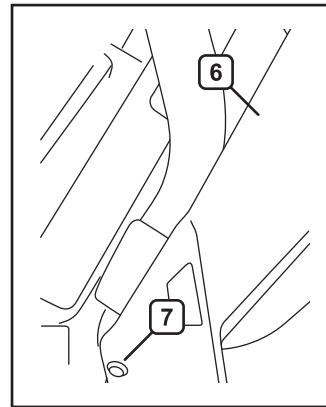

Figure 3.
8. Install the front fascia (6) and hardware (7, 8) removed in step 3. See figure 3 and 4.